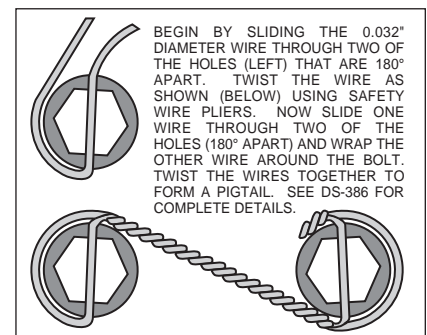

Figure 4. Safety Wire Diagram
- Slide the bracket kit assembly (1) onto the housing flange and then insert the axle assembly through the center hole of the bracket kit assembly (1). Secure using the stock Original Equipment Manufacturer (OEM) bolts and nuts. Stock OEM hex nuts that retain the bracket kit assembly (1) should be on the wheel side of the bracket. Apply red *Loctite*® 271 to the stock OEM bolt threads and torque to OEM specifications. Make sure the bracket kit assembly (1) brake pads are FACING OUTWARD TOWARDS THE WHEEL.
- With the larger I.D. side of the rotor (3) facing away from the hat (2), bolt rotor (3) to hat (2) through the backside of the rotor using washers (4) and bolts (5). Torque bolts (5) in an alternating sequence to 103 **in-lb**. Safety wire bolts (5) using standard 0.032 inch diameter stainless steel safety wire as shown in Figure 4.